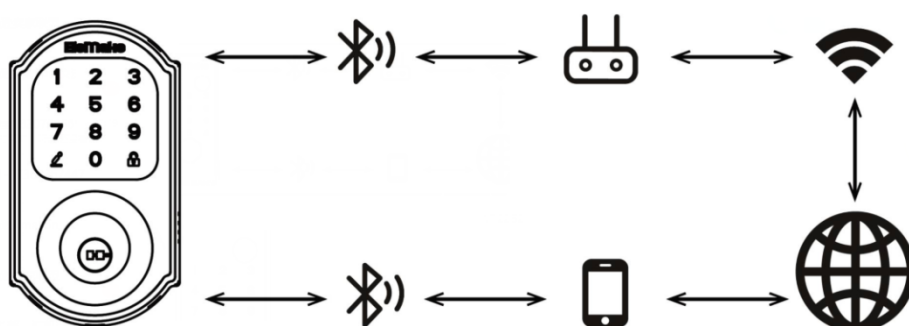

Figure Q-1
(1) Separated WIFI design, No Power consumption to battery for WIFI application. (See Figure Q-1)